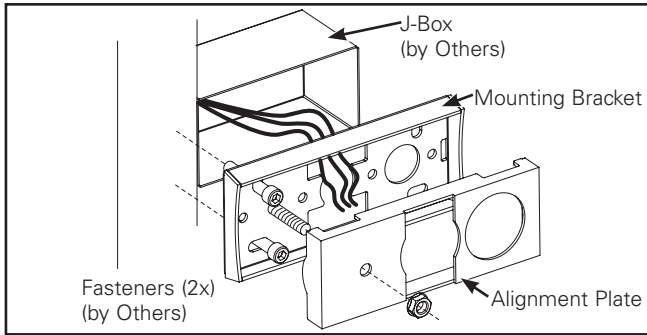

Figure 5.
Install second mounting bracket to structure. Bracket faces opposite direction of first installed bracket. See Table (A) for distances from bracket stud to bracket stud. Ensure bracket is level with first installed bracket. Secure alignment plate and loosely secure nut. (Figure 5.)